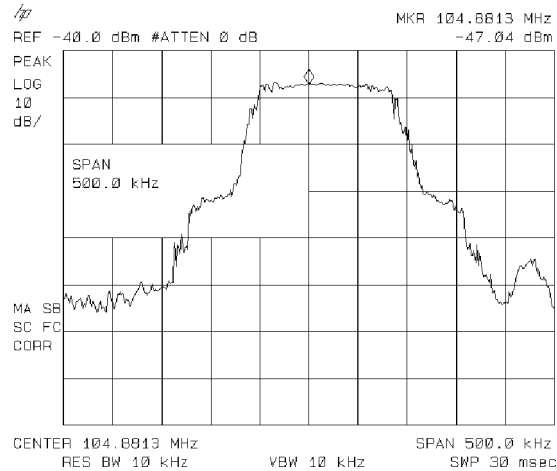

Figure 6-10. Viewing an Unstable Signal Using Max Hold A
5. To measure the excursion of the signal, press **TRACE** then **MAX HOLD A**. As the signal varies, maximum hold maintains the maximum responses of the input signal, as shown in Figure 6-10.